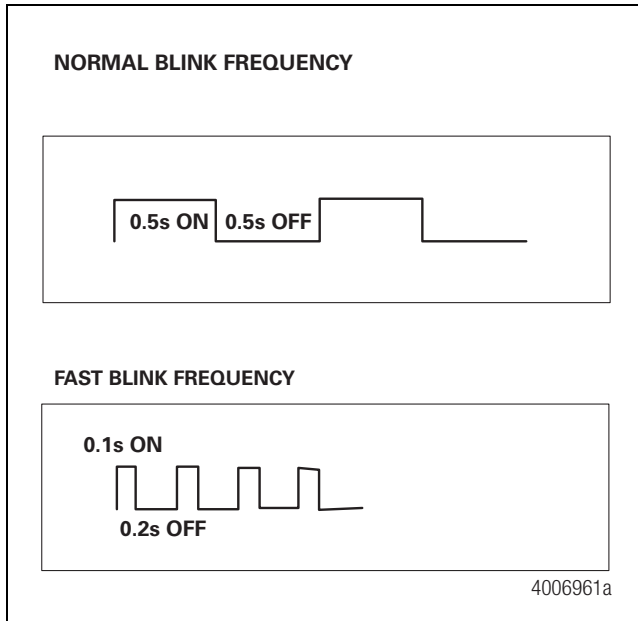

Figure 2.10
4. Blink Code Frequency (Figure 2.10)